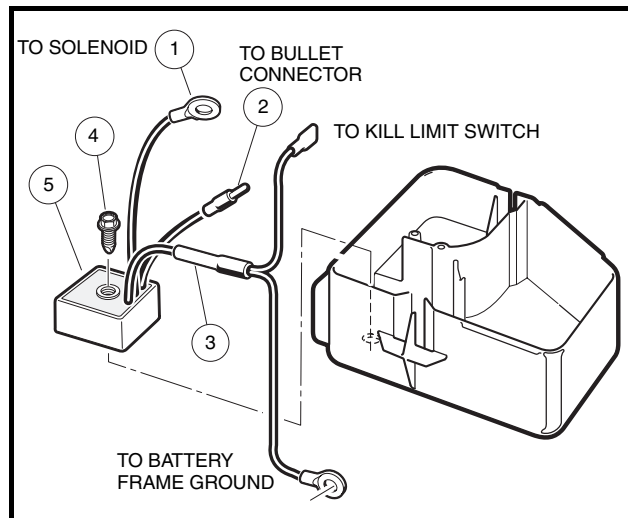

Figure 13-15 Voltage Regulator
5. Disconnect the voltage regulator red wire (1) at the large post on the solenoid, the yellow wire (4) at the bullet connector and the black wire (7) from the wire harness and at the battery frame ground (**Figure 13-15, Page 13-12**).
6. Remove the voltage regulator mounting screw (8) and remove the voltage regulator (9).
1. Position the voltage regulator (9) in the electrical component box and install the mounting screw (8) and tighten screw to 23 in-lb (2.6 N·m) (**Figure 13-15, Page 13-12**).
2. Connect the voltage regulator red wire (1) at the large post on the solenoid with the other red wires, the yellow wire (4) at the bullet connector and the black wire (7) to the wire harness and the battery frame ground (**Figure 13-15, Page 13-12**).